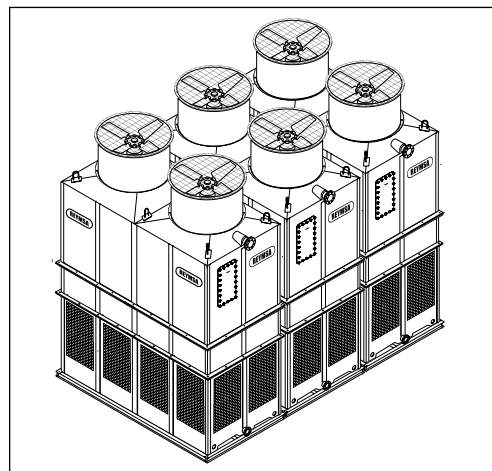

Figure A-68: Modular Tower installed by large side arrangement (-L)
- F. Follow the same instructions to place the remaining fan ducts (see figure A-68).